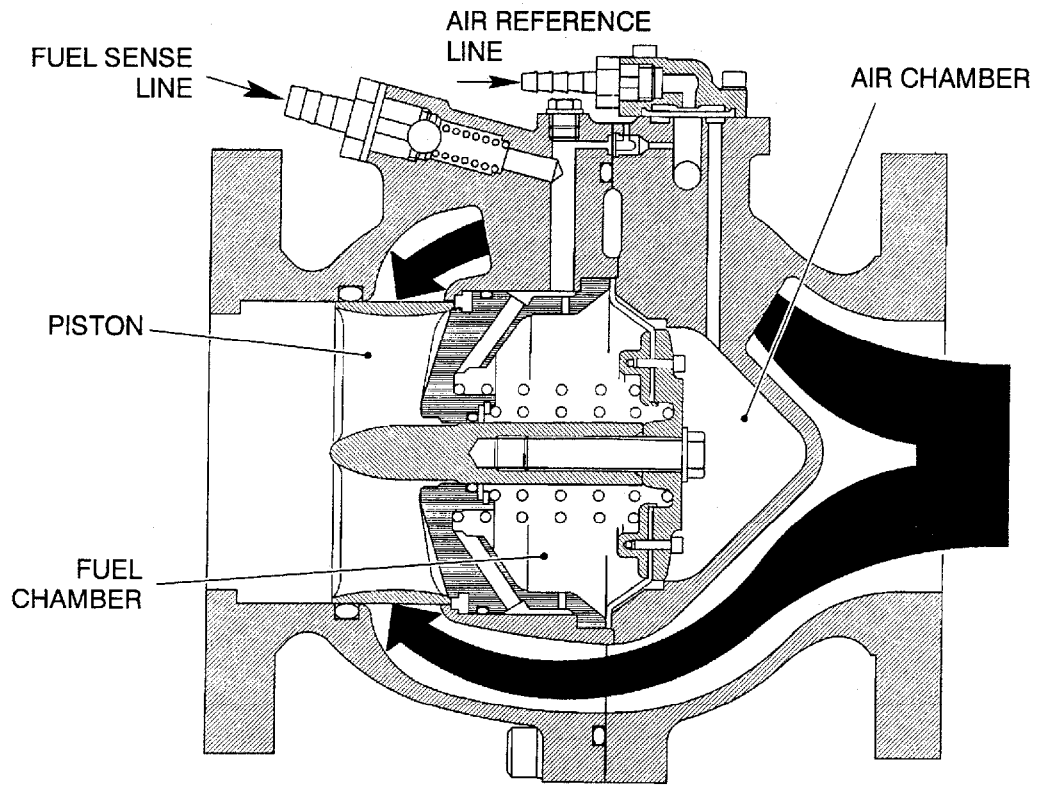
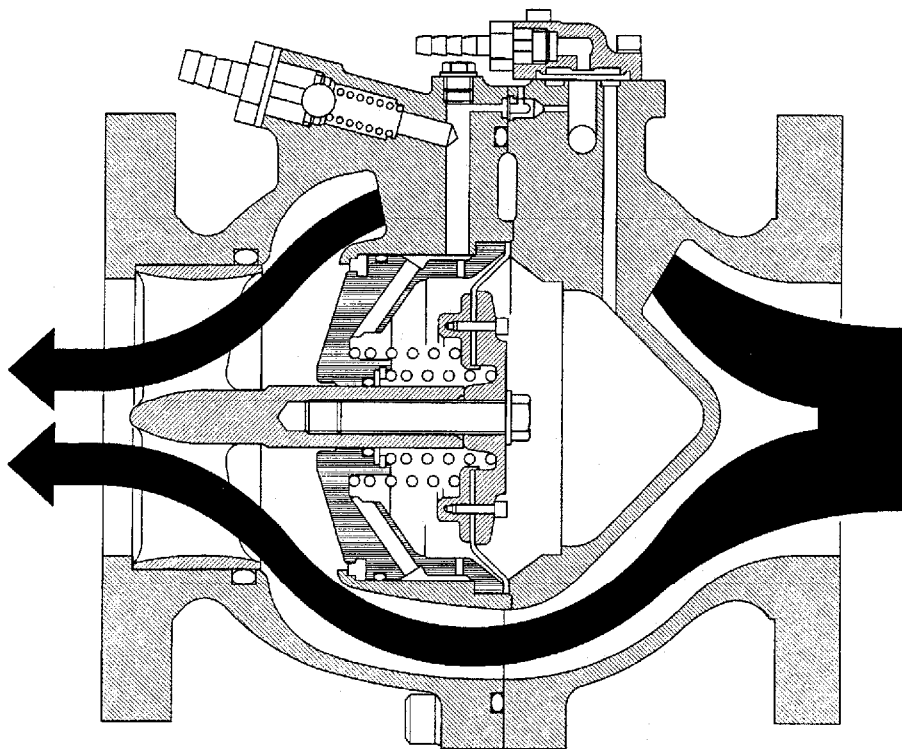

FIG. 1A 4" INLINE PRESSURE CONTROL VALVE - CLOSED POSITION
FIG. 1B 4" INLINE PRESSURE CONTROL VALVE - OPEN POSITION
- 2.12 Fig. 1A shows the valve fully closed. Fig. 1B shows the valve in the fully open position with the air pressure overcoming the combined effect of fuel and spring pressure. In practise the valve, under normal operating conditions, will balance around the mid stroke position with small changes in pressure being compensated for by small movements of the piston.